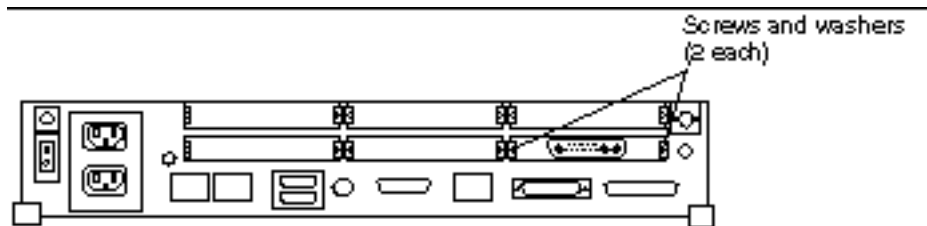

Figure 7-1 Rear Panel—Screws and Washers
a. Remove the screws and washers from the outside of the rear panel where the SBus card is. See Figure 7-1.